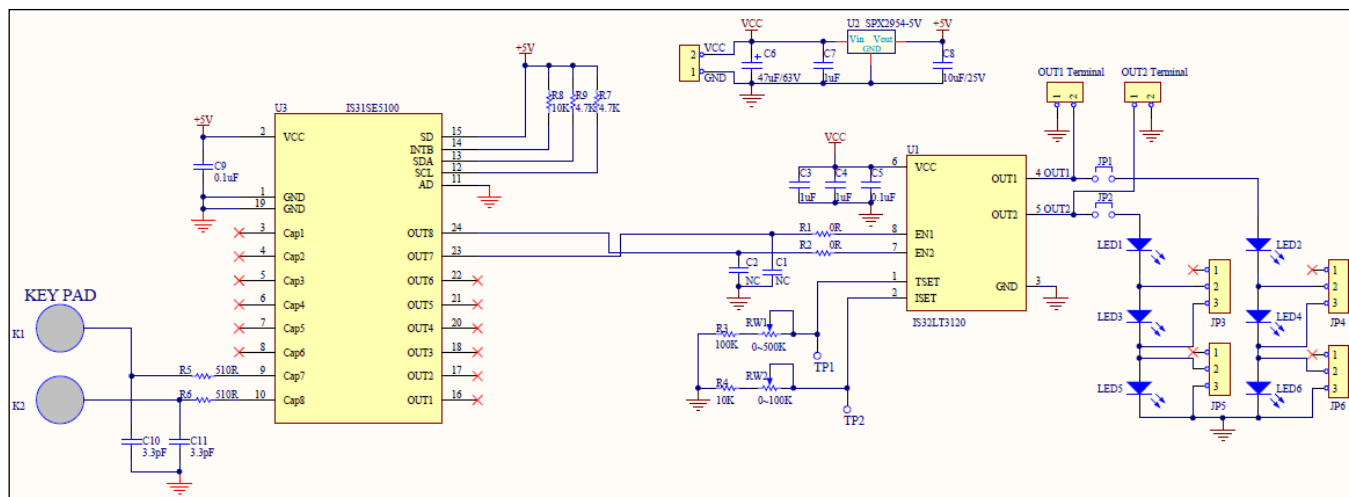

Figure 2: IS32LT3120+IS31SE5100 Application Schematic
- 2) The fade time of both channels is adjusted by the variable resistor (RW1). Turn RW1 counter clockwise to decrease fade time, and clockwise to increase fade time. Once the desired fade time is set, measure the resistor value across TP1 and GND. Use this measured resistor value to replace the variable resistor RW1 and R3 (see schematic Figure 2).
- 3) The output current of both channels (OUT1 and OUT2) is adjusted by the variable resistor (RW2). Turn RW2 counter clockwise to decrease the output current of both channels, and clockwise to increase the output current of both channels. The test point TP2 can be used to detect the resistor value at the ISET pin. The final resistance can be measured with an ohm meter across TP2 and GND pins. Use this measured resistor value to replace the variable resistor RW2 and R4 (see schematic Figure 2).
Bill of materials, refer to Figure 2 above.